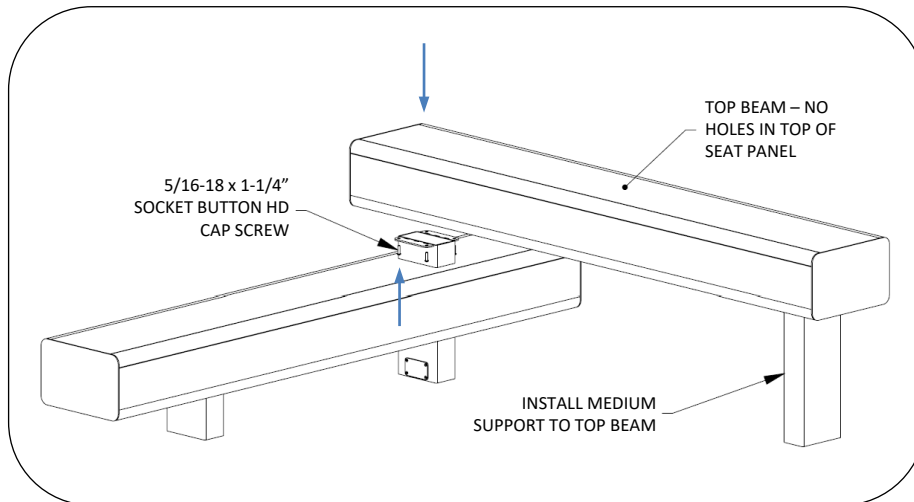

Fig. 4 – Install top beam
5. Attach medium supports to top beam, if applicable, using (4) 5/16-18 x 1-1/4" socket button head cap screws. Attach top beam to top of intermediate columns using (4) 5/16-18 x 1-1/4" socket button head cap screws, see Fig. 4.